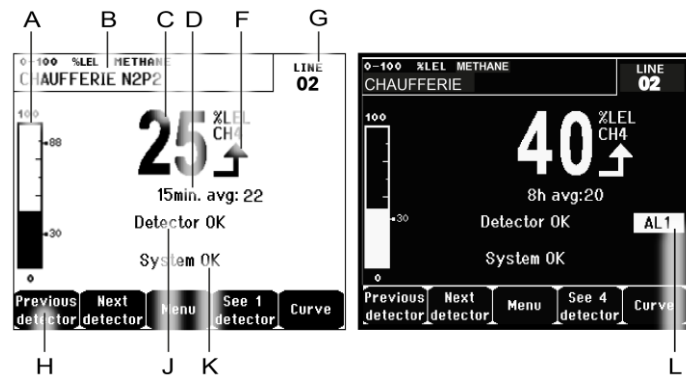

Figure 35: Example of the measurement display in normal mode and in grayscale mode
- **See 1 detector**: Display in normal mode (Figure 35).
- L. Zone of indication of activated alarms with blinking threshold display. The screen changes to inverse video (Figure 35, screen on the right).